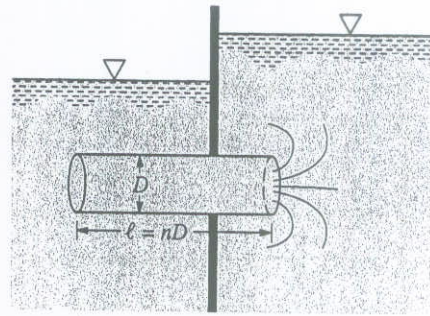

FIGURE P8.68
8.68 As shown in Fig. P8.68, water flows from one tank to another through a short pipe whose length is  $n$  times the pipe diameter. Head losses occur in the pipe and at the entrance and exit. (See Video V8.10) Determine the maximum value of  $n$  if the major loss is to be no more than 10% of the minor loss and the friction factor is 0.02.